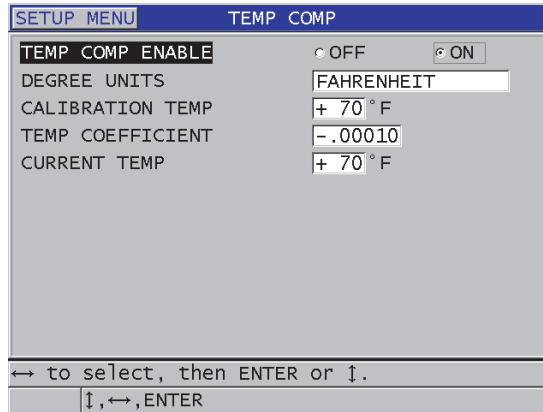

Figure 10-18 The TEMP COMP screen
3. In the **TEMP COMP** screen (see Figure 10-18 on page 177):